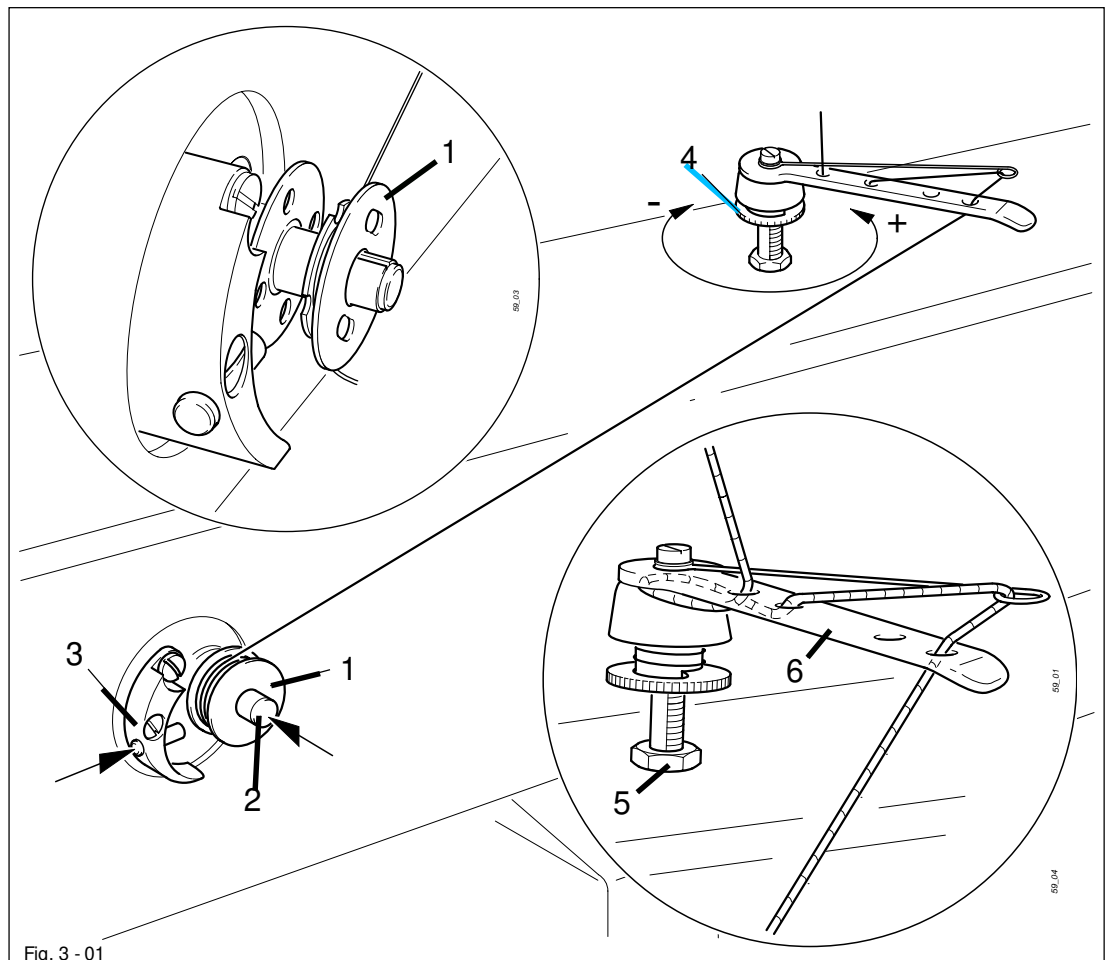

Fig. 3 - 01
- Insert the thread as shown in Fig. 3 - 01 and wind the thread a few times clockwise around bobbin 1.